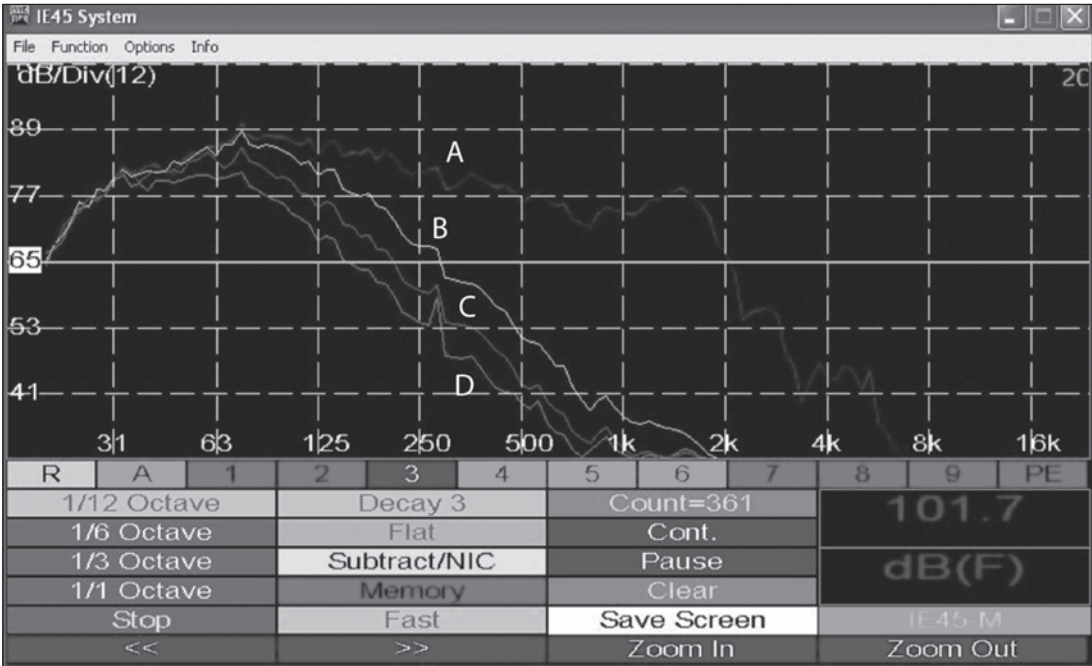

FIGURE 1: The IE45 RTA software showing measurements of the subwoofer’s measured response to a pink noise signal.
Using this arrangement, I made several measurements, and the results can be seen in **Fig. 1**. The vertical scale shows dB SPL at the microphone. The curve (A) shows the response with the subwoofer’s low-pass filter disabled (turned off). The curve peaks at around 100Hz with a level of 90dB or so, and falls off either side